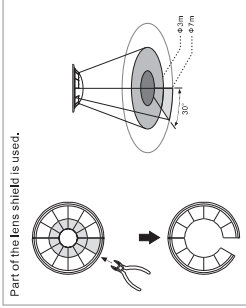

FIG.23-B
4. Walk from outside across to the detection pattern until LED turns on for approx. 10secs (See FIG.23).
4.3.1 SAE-JE-MSCSAWE has provided 2 lens shields for masking the undesired detection area. Each lens shield has 2 layers, each layer includes 6 small pieces shield and each small piece shield can cover the detection area. For example, if the lens shield is used at the height of 2.5m, the detection range can reach up to 1m diameter if the complete lens shields has been used; and up to 3m diameter if only the A layer of lens shield has been used (See FIG.23-A & FIG.23-B).